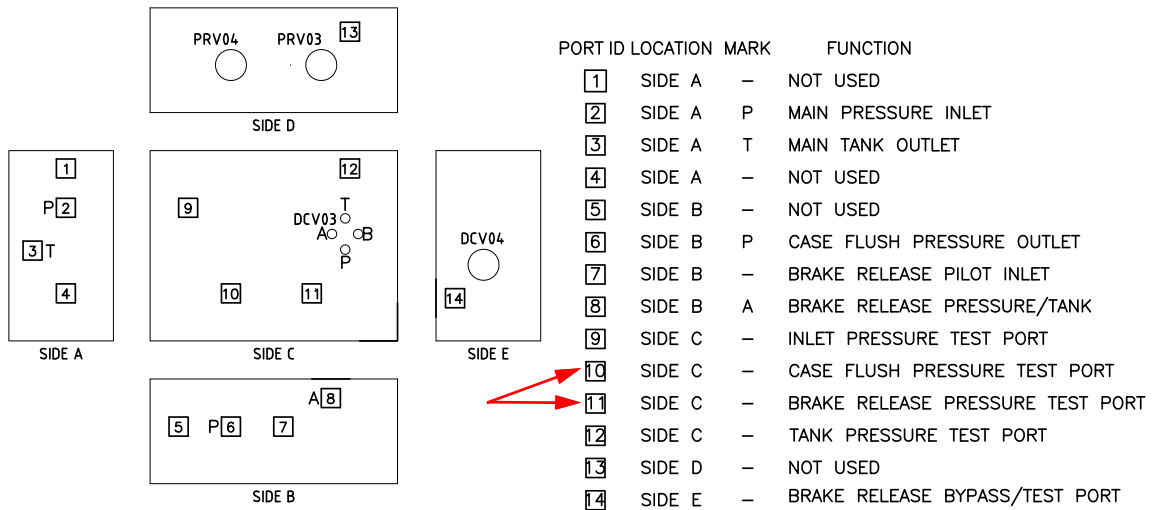

Figure 3: Carrier Winch Control Manifold Ports
- Make sure that the brake pressure reducing valve is set at 800 psi (see Figure 1 on page 2). It can be verified by installing a pressure gauge on the test port No. 11 (see Figure 3 on page 2). If the valve is not set to the proper pressure (800 psi) there is a risk of premature wear of the friction discs that could cause the failure described in this alert (see Figure 2 on page 2). This setting must be checked monthly.
- Verify that the pressure on port No. 10 (hydraulic motor flushing line) is not above 50 psi (see Figure 3 on page 2).